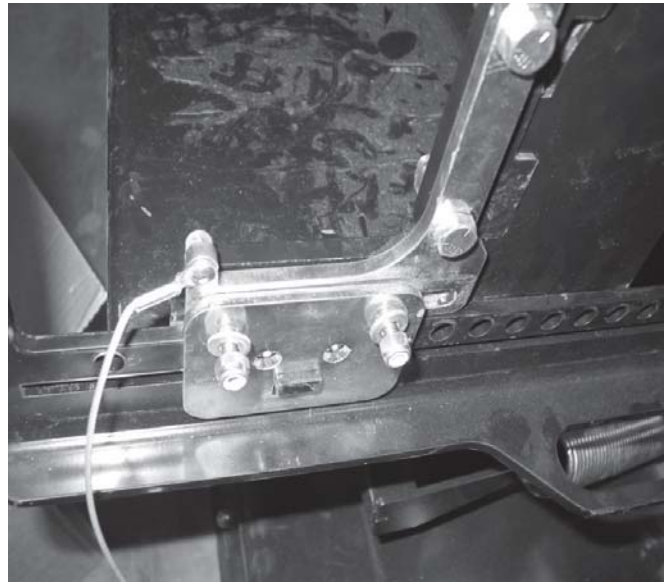

Figure 26 Install 1/4" washers and nuts
28. Terminate the ends of the bolts with two 1/4" dia nylon lock nuts and 1/4" flat washers. See Figure 26. Tighten just snug and then loosen 1/8-1/4 turn. The stand should move freely up and down on the support. If stand does not move freely then loosen additional incremental amounts. Until latch and stand move freely. Repeat from step 19-26 for other side.